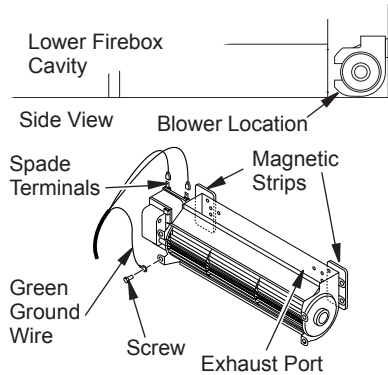

Figure 25 - Blower Model BK
1. Attach the power cord to the blower motor by firmly pushing the two female terminals at the end of the power cord onto the two spade terminals on the blower motor (see Figure 25).
2. Attach green ground wire from power cord to the blower housing using screw provided (see Figure 25). Tighten screws securely.
3. Place the blower against the lower wall of the firebox outer wrapper with the exhaust port directed upward. The blower will fit inside the back opening and be held in position against the back wall by the magnets (see Figure 25).